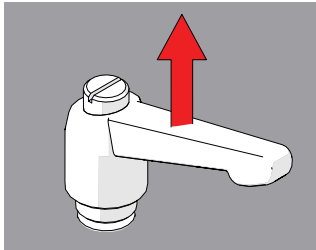

Fig. 57 - Pull ratchet handle
1. Pull the ratchet lever away from the base of which it is connected (Fig. 57).